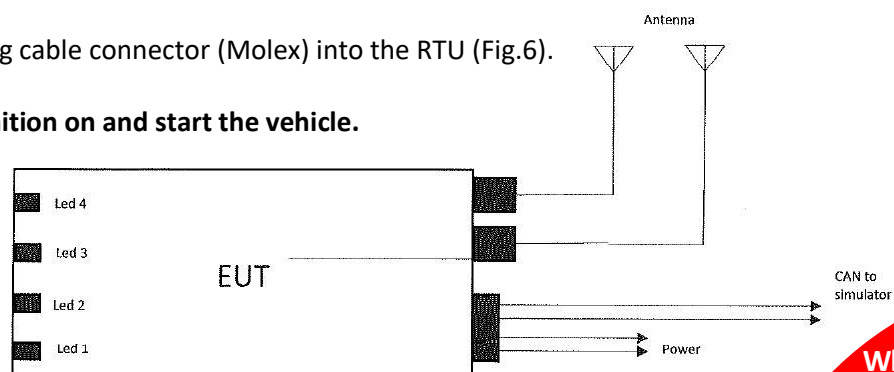

Fig. 6
- Push the connectors of the antenna into their respective color matching components on the RTU (**Fig 6**).
9. Plug the remaining cable connector (Molex) into the RTU (**Fig.6**).